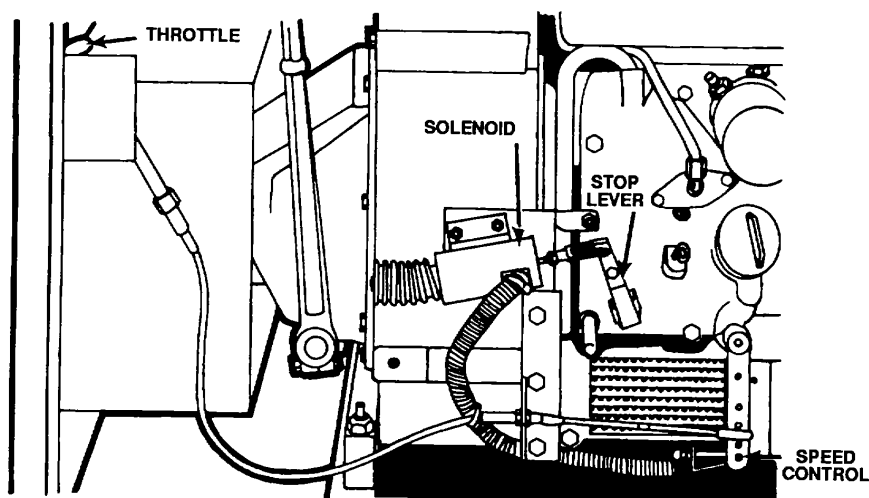

Figure 4-73. Stop Lever/Solenoid Speed Control/Throttle
- a. Run Solenoid. The run solenoid (figure 4-73) has a dual electromagnetic coil system for energizing and holding the plunger. The holding coil is energized when the switch is in the ON position and the relay latch button is in. Turning the starter switch to the START position energizes the second coil.